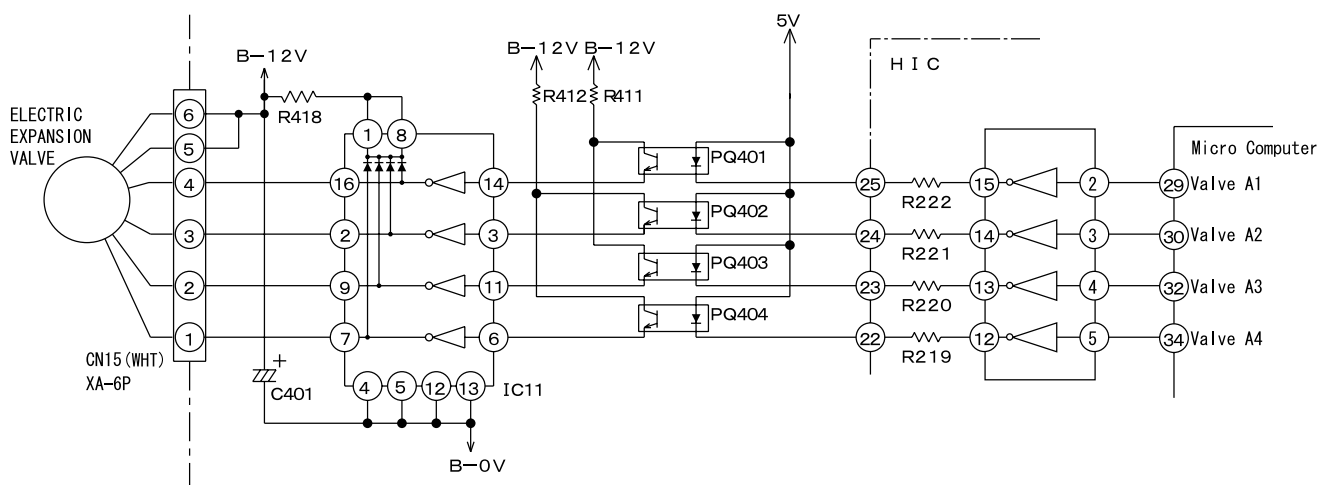

Fig. 5-1
- * Fig.5-1 shows logic waveform when expansion valve is operating.